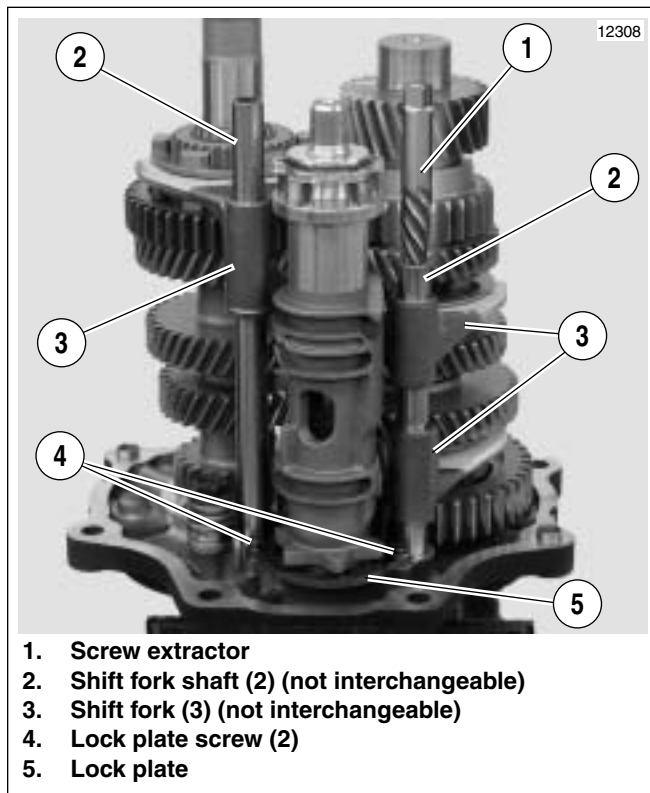

Figure 9. Transmission Gear Assembly with Shift Forks and Shift Cam
20. See Figure 9. With access door on end (shafts pointing upward), remove shift fork shafts (2) using screw extractor—not flute design (1). Shafts have slight interference fit. Shafts can be reused; do not damage end of shaft. Do not remove shift forks from shift fork shafts. Remove each shaft and shift fork(s) as a unit.
21. Remove two screws (4) and lock plate (5). Discard screws.
4. See Figure 9. Install lock plate (5) and **new** lock plate screws (4) (Part No. 35259-06 from recall parts kit) into transmission bearing housing. Tighten screws to 50-70 **in-lbs** (5.7-7.9 Nm).